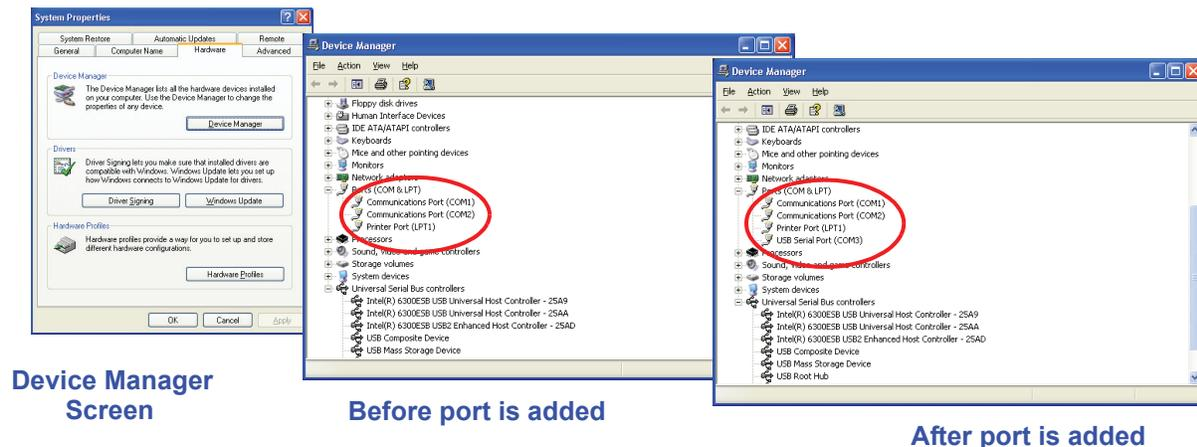

Figure 4-5 Example Device Manager Screens
6. Identify the computer port that has been added to the PC by using the “Properties” of My Computer and examining the COM ports. USB ports are generally added to the bottom of the list and named USB COM port “x”. Refer to Figure 4-5 for screen examples (Windows XP).